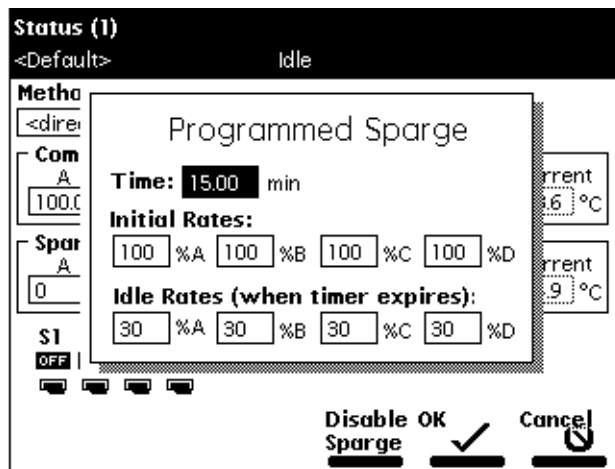

Figure 4-13 Programmed Sparge Dialog Box
2. Select the **Program Spurge** option, then press **Enter**. The Programmed Spurge dialog box appears (Figure 4-13).